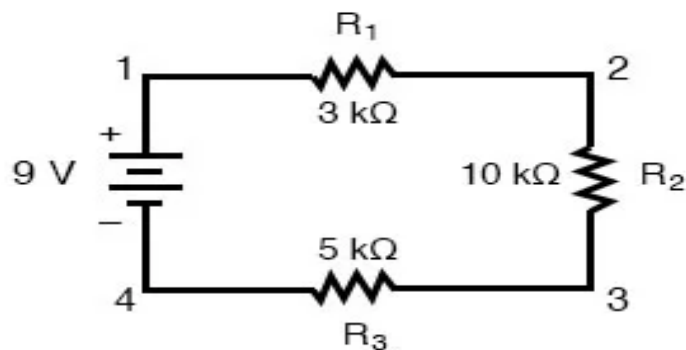

Figure 1.4
- Perform all the following circuit of Figure 1.4 on software.